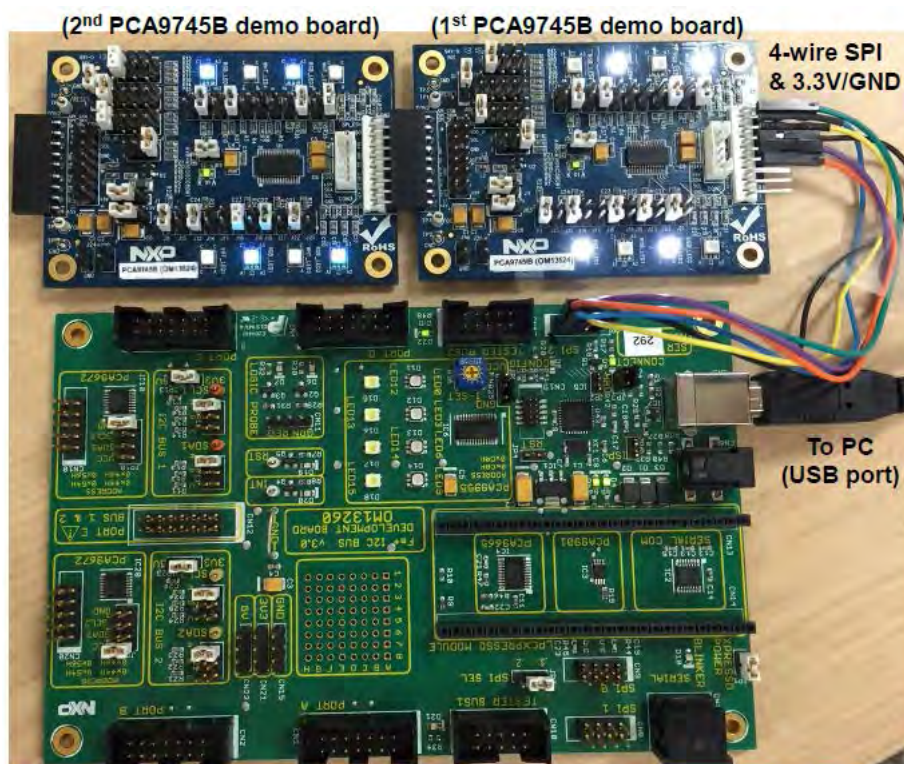

Fig 10. Two PCA9745B demo boards connecting to the Fm+ development board
3. The Fm+ development board as SPI master drives two PCA9745B demo boards in daisy-chain as shown in the Fig 10. After open the “SPI daisy chain demo with two PCA9745B devices” text file, the “NXP Fm+ Board GUI” in Expert mode screen will be displayed all messages, then click the ‘Send All’ button, all the valid messages on the screen will be sent in the order of the row number (Msg #). The action will be performed one time.